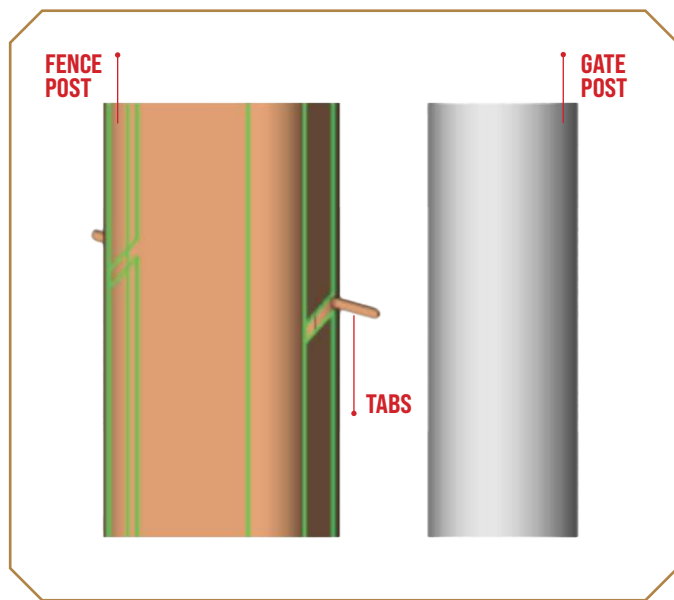

Figure 1
1. Near the bottom of the fence post, bend out the tabs with a screwdriver, set of pliers, or channel lock tool to at least 45° and not more than 90° (Figure 1). These anchor the fence post in the concrete.